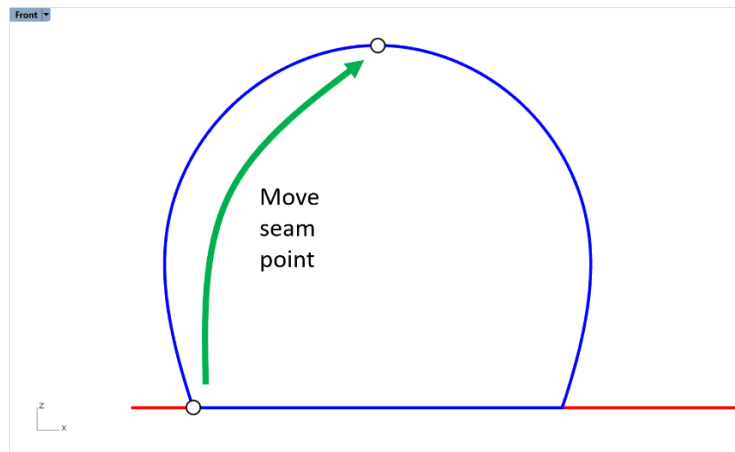
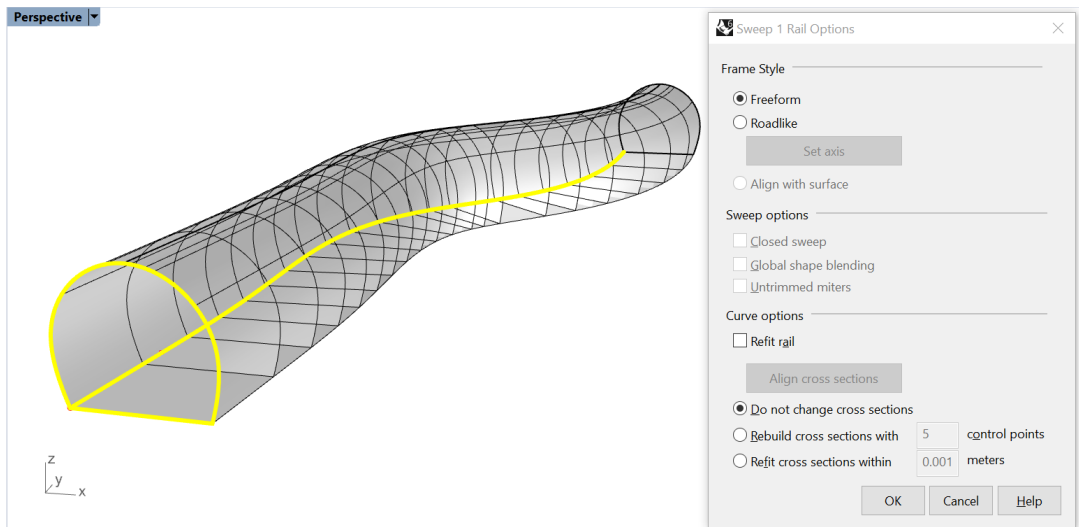

Figure 53: Drag seam point to the top of the tunnel profile.
Figure 54: Creation of tunnel surface by sweeping the profile curve along the direction path.
8. Select the red curve (excavation direction) and type the command **\_Sweep1**. For cross-section curves, select the single blue curve (tunnel profile). When offered to *Drag seam point to adjust*, drag it from the bottom-left corner of the tunnel profile to the topmost point of the profile and press **Enter** (maximize *Front* viewport for ease of dragging the seam point; this can be done while the command is active; Figure 53). It is important to move the *seam point* from the corner to create the proper geometry suitable for **BlockRanger**. For other options in the **\_Sweep1** command, use those shown in Figure 54.